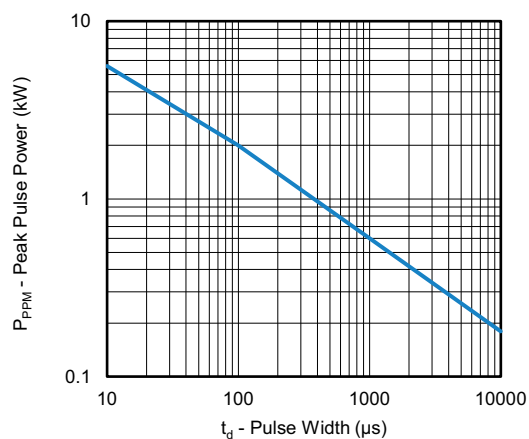

Fig. 1 - Peak Pulse Power Rating Curve
- Fig. 1, power calculations is based on IPPM times defined maximum clamping voltage by pulse width